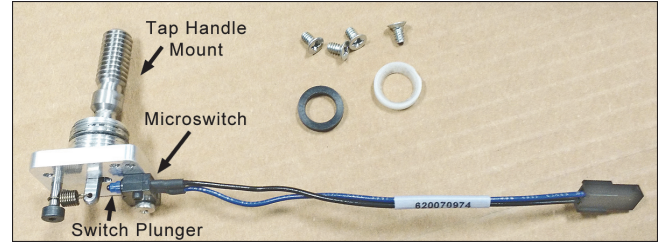

Figure 2 - Tap Handle Microswitch Assembly
- 5) Remove the 4 screws securing each tap-handle switch assembly to the metal bracket and disconnect the wiring leads (Fig. 2).